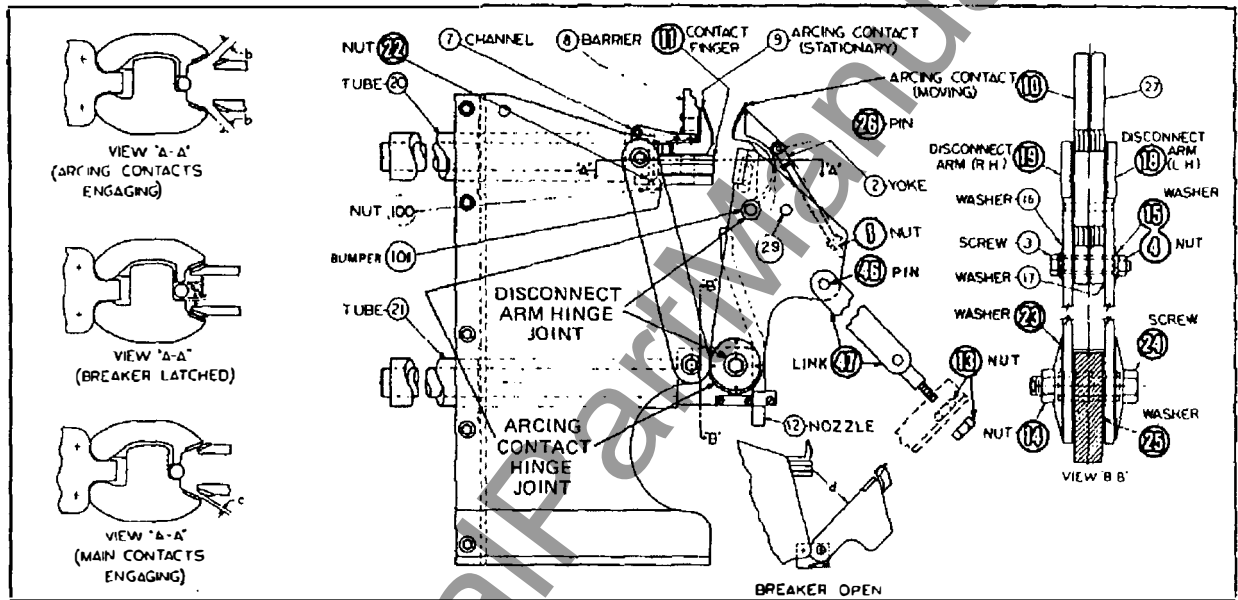

Fig. 10 - Stud and Support Assembly
Examine the contacts, Fig. 10. The major function of the air circuit breaker depends upon correct operation of its contacts. These circuit breakers have two distinct sets of contacts — main and arcing — on each pole. When closed, practically the entire load current passes through the main
Refer to Fig. 10. Remove disconnect arms as a unit by removing screw (24), nut (14) and spring washer (23). Carefully inspect all contact surfaces in hinge joint. Replace any damaged parts. Silver washer (25) and adjacent surfaces should be clean and free of roughness or galling. However, discoloration of the silvered surfaces is not usually harmful unless caused by sulfide (insulating) deposits. These should be removed with alcohol or a silver cleaner. Lubricate silver washer and mating surfaces by applying electrical contact lubricant (Fig. 20, J). Reassemble hinge joint. Tighten screw (24) and nut (14). Spring washer (23) and silver washer (25) must be assembled in their original position to assure proper adjustment. Adjust per Page 12, "Contact Pressure of Disconnect Arm Hinge Joint and Arcing Contact Hinge Joint".